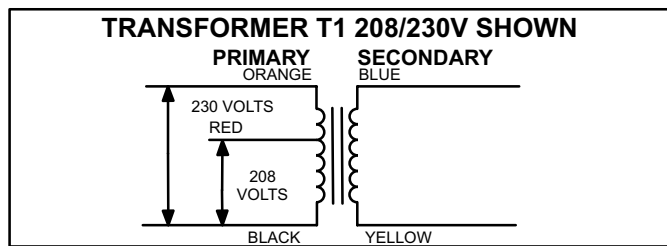

FIGURE 10
All CHA16 series units use a single line voltage to 24VAC transformer mounted in the control box. The transformer supplies power to control circuits in the unit (except the heating section). Transformer is rated at 70VA. 208/230 (P) voltage transformers use two primary voltage taps as shown in figure 10.